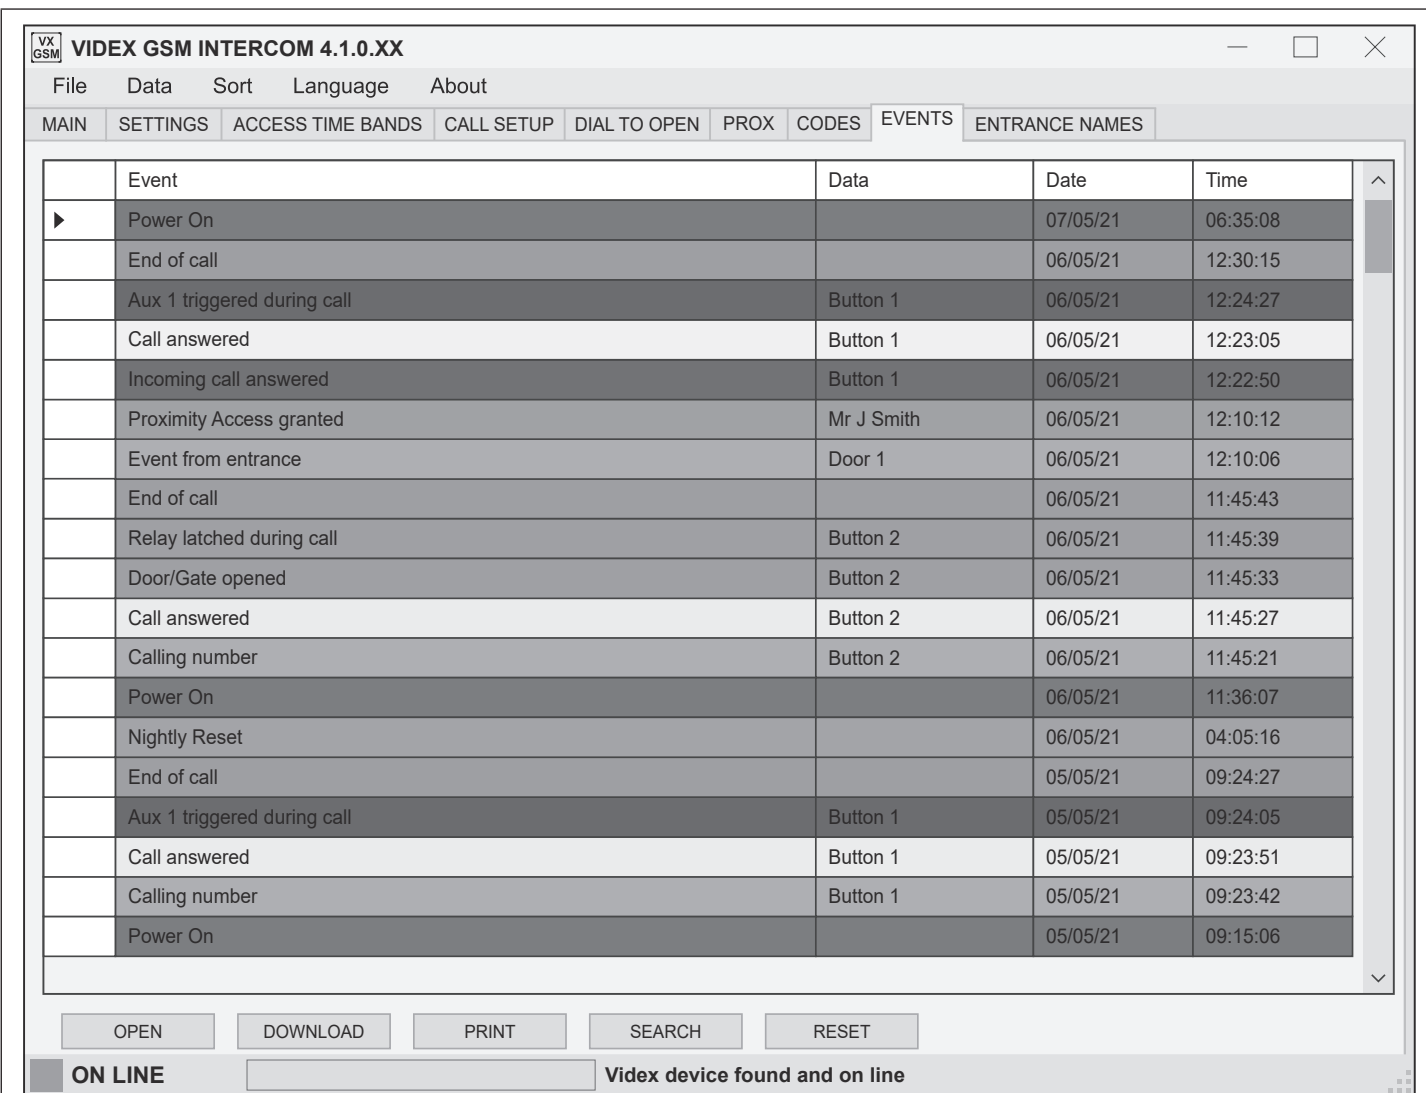

Fig. 74
The recently downloaded events from the GSM module will be displayed on the main **events window**, as shown in **Fig.74**.
- At the bottom of the events screen click on the 'PRINT' button (see Fig.74).
- Click on the **'SEARCH'** button at the bottom of the events screen (see **Fig.74**).
The events shown on the events screen (after a recent events search) can be reset back to display all the events that were originally downloaded from the GSM's event logger by clicking on the **'RESET'** button at the bottom of the screen (see **Fig.74**). This will only reset the events shown on the screen, it won't clear the events actually stored in the GSM intercom (refer to notes on downloading an event log on page 39).